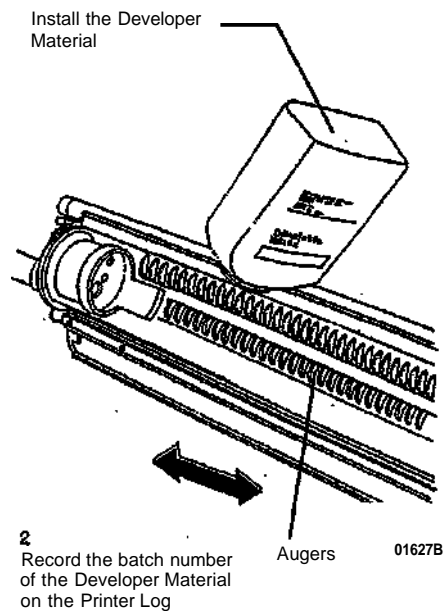

Figure 10. Installing the Developer Material
17. (Figure 10): install the Developer Material evenly along the entire length of the augers.